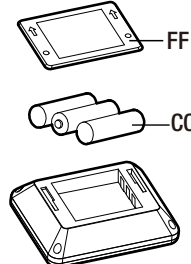

Figure 2
1. To install the batteries (CC) pull down the battery cover (FF). (Figure 2)